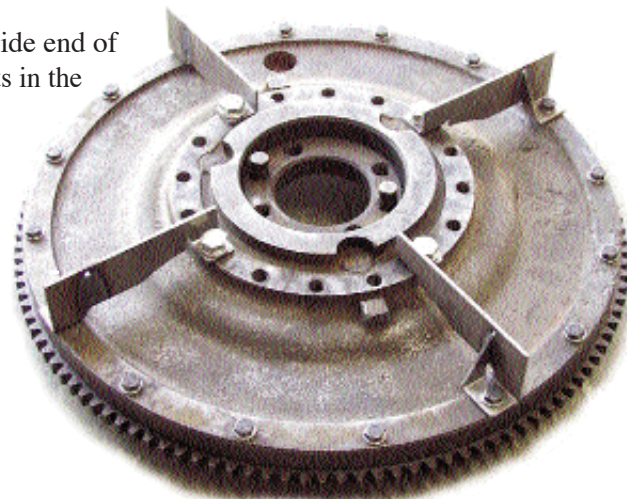

Figure 1
3. Place the ring gear back on the flywheel and line up the bolt holes. Use the 1/4" split lock washers on the 1/4-24 bolts and insert the bolts into the flywheel loosely to make sure all holes line up. Remove four of the bolts spaced at 90° from each other. (12 o'clock, 3 o'clock, 6 o'clock, and 9 o'clock.) Place the Oil Slingers on the flywheel as shown in Figure 1 and reinsert the bolts to hold the slingers.
4. Using the 3/8" lock washers, insert the 3/8-24x3/4" bolts into the inside end of the Oil Slingers as illustrated in Figure 1. You do not need to put bolts in the empty holes.